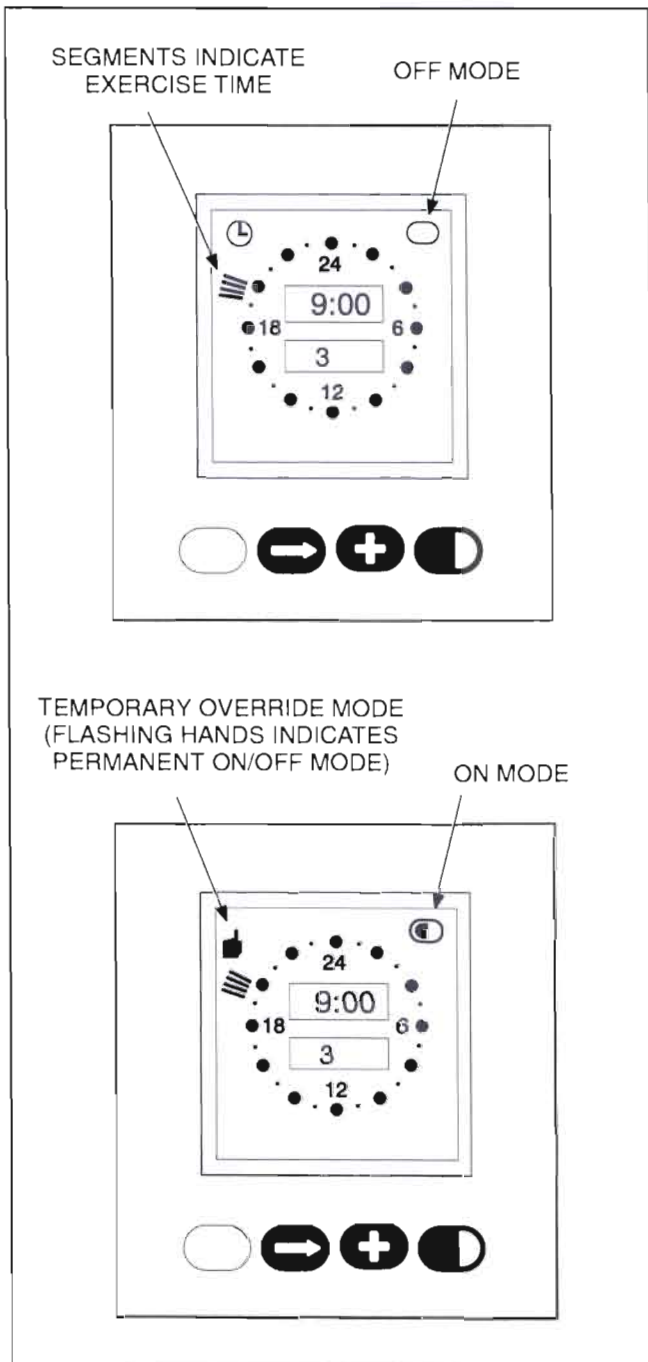

FIGURE 4-6. EXERCISER CLOCK ON/OFF MODE
3. Press the plus (+) button to increment the **Start** time of the exercise program. The display will show midnight (0:00). Note that by holding the (+) button down, the minutes increment in 15 minute intervals. When the **Start** time is reached, press the set (■) button (ON Mode is indicated, Figure 4-6).
Then increment the time with the plus (+) button to the desired **Stop** time. When the **Stop** time is reached, press the set (■) button (OFF Mode is indicated, Figure 4-6).
With the normal source connected and available, pressing the set (D) button once initiates a test sequence. A hand is displayed in the upper left corner of the display and the ON mode is indicated inside the ellipse in upper right corner of the display (Figure 4-6). Pressing the set (D) button again stops the test and the ellipse indicates the OFF mode.
To temporarily override an activated exercise program, *momentarily* press the set (D) button. A small hand will appear in the upper left corner of the display (Figure 4-6). The current program is overridden and the clock automatically sets the next program. Momentarily pressing the set (D) button again returns to the current program.